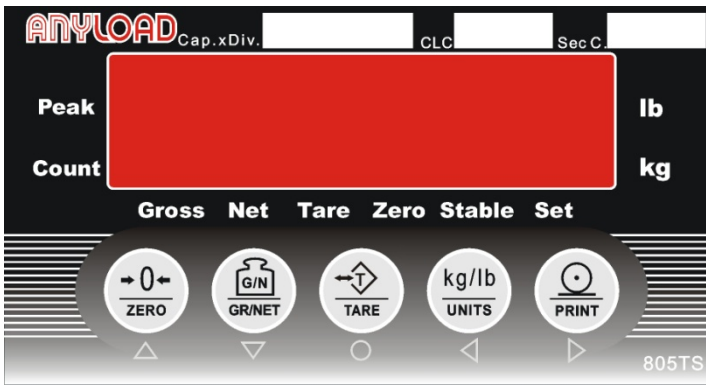

Fig. 4.1 Front Panel Configuration for 805TS
Fig.4.1 and Fig.4.2 shows indicator display, LED/LCD indicator lights and keypad configuration. Signs at the bottom of the keypad are for configuration operation use (refer to Section 9 for details).
▶, ◀ are for moving forward and backward while ▲, ▼ are for increasing and decreasing the digits. After done with Input Item Code, press the ○ key if the stored Item Code is not 0. Item Code of the current count items is then stored and the keypad returns to normal operating functions as shown in Fig. 4.1 (805TS series) and Fig.4.2 (805BS series).
- (5) On the Weighing mode, keypad functions are according in Fig.4.1 (805TS and Fig.4.2 (805BS series).